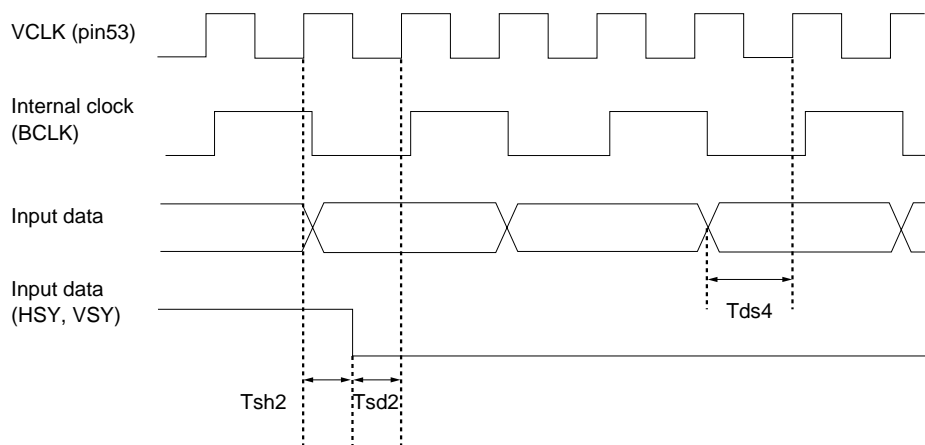

Fig.14
* In this mode, the internal clock (BCLK) begins to operate at a halved frequency at the rise of the VCLK input, following the rise of the RSTB pin (pin 52). When HSY is input, phase correction is carried out at the falling edge, as shown in Fig. 14. (In other words, the phase of the internal clock (BCLK) is not determined until HSY is input.)